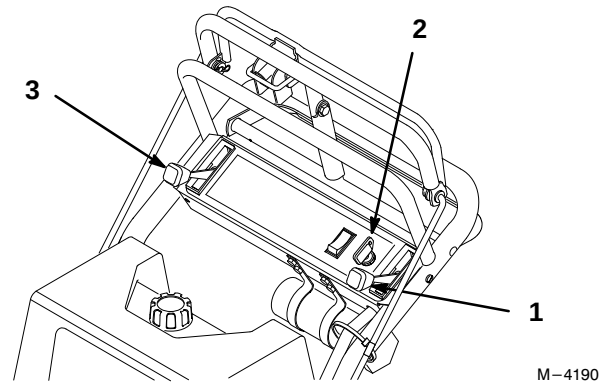

Figure 13
2. Move the shift lever to neutral, set the parking brake and turn ignition key to RUN (Fig. 13).
3. Move the throttle control to CHOKE position before starting a cold engine (Fig. 13).
1. Move the throttle lever to “SLOW” (Fig. 13).
2. Turn the ignition key to “OFF” (Fig. 13).